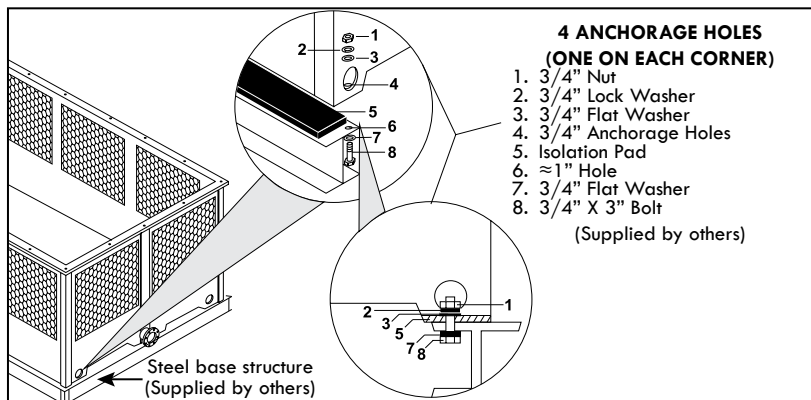

Figure A-47: Typical anchorage for an RTG and RTGTC model.
- H.** Place the basin section of the Tower on top of the isolation pad and the base structure; Secure it with the galvanized steel nut and bolt sets (supplied by others) as shown on Figure A-47.